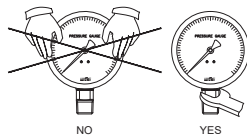

Figure 5
- 7) Do not cut off the oil cap if the gauge is being used in outdoor because water can flow into the gauge when it rains . It is recommended to release the internal pressure regularly. However, it is required to cut off oil cap, then just cut off the tip of the oil cap as expressed in figure 5.